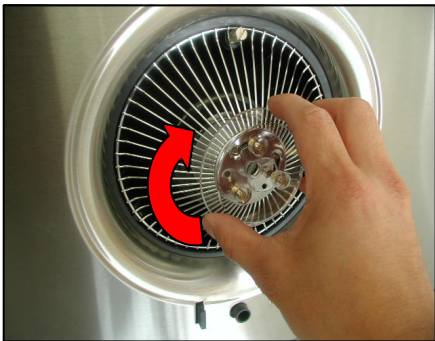

Figure 30
1. Place the oil container (round) into keyhole under each safety screen. Turn clock-wise until firmly in place. Refer to Figure 30.